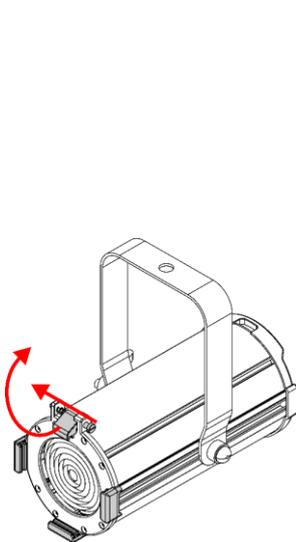

Fig. 07
- 01) Push the **spring-loaded screw (01)** and at the same time lift the **color frame clip (02)** and flip it backwards (see Fig. 07).